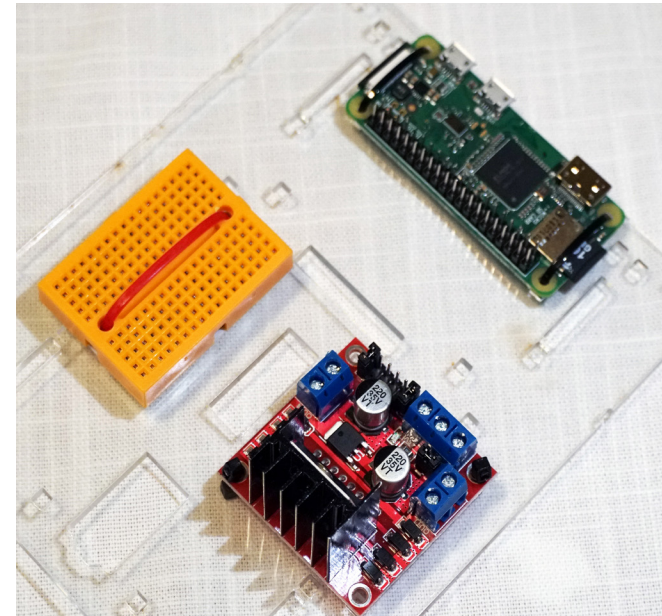

Figure 9
10. **Breadboard:** Do not remove the paper backing. Align on the chassis top as shown. Secure with a zip tie. (Figure 9)